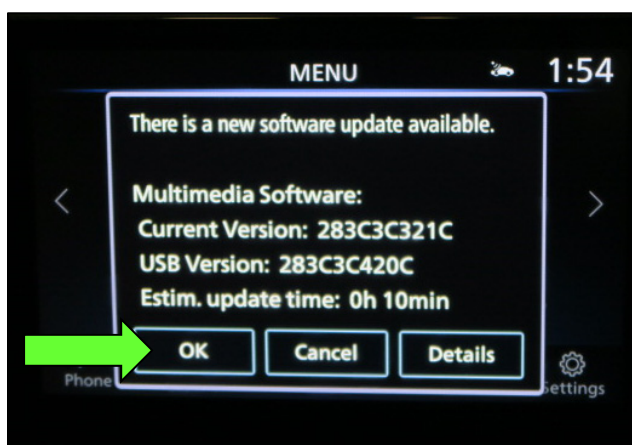

Figure 14
22. Wait approximately 10-30 seconds for the screen in Figure 14 to appear, and then select **OK**.